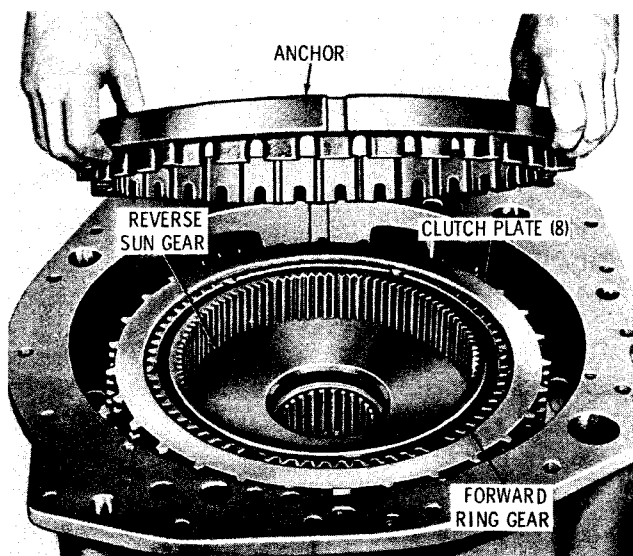

Fig. 5-26. Removing forward clutch anchor (5630 models)
(4) Remove the forward clutch anchor (fig. 5-26). Remove the first five clutch plates. Remove the forward ring gear and reverse sun gear.
(5) Remove the three remaining clutch plates.